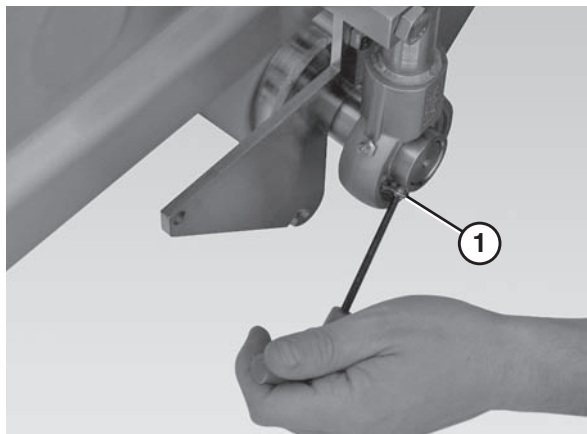

Figure 67
13. Use a 4 mm hex wrench to loosen the button head screws on the bearing (**Figure 67, item 1**).